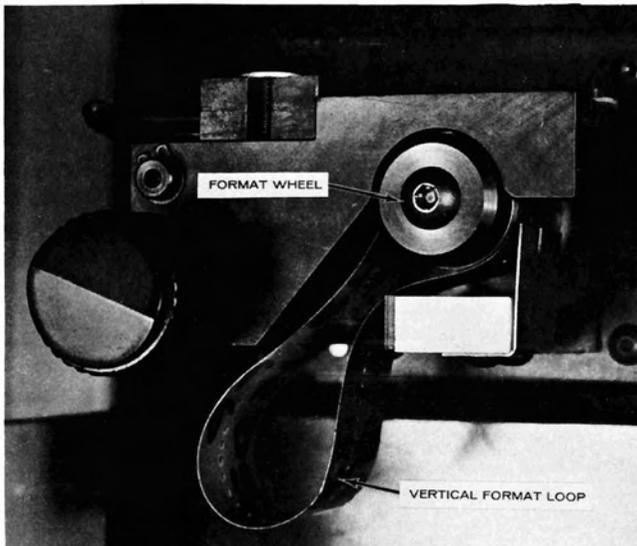

Figure X-8. Vertical Format Loop
8. Install the vertical format loop on the format wheel, as illustrated in Figure X-8.